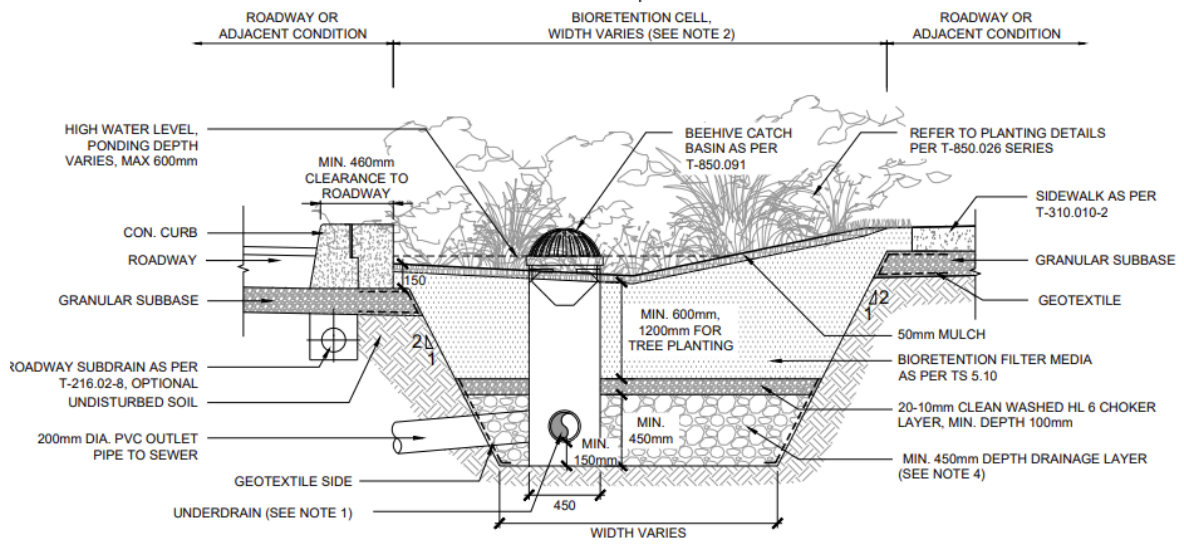

Figure 5: Material Sequencing in Typical Cross Section of a Bioretention
- Confirm that appropriate placing sequence for all materials is used during backfilling, and that the depths are as per the tender package. Typical sequencing is: 1. Gravel for drainage layer (at the bottom), 2. Stone for chocker layer; 3. Growing Medium; 4. Mulch and Vegetation (see typical cross section in Figure 5).